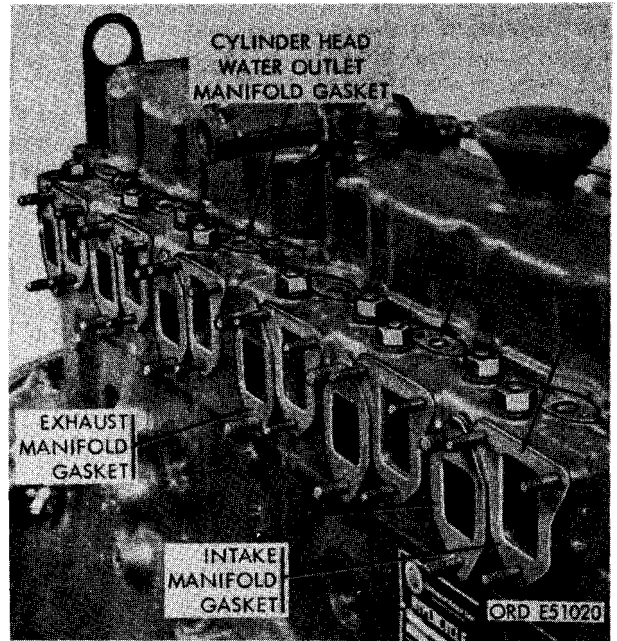

FIGURE 172. REMOVING OR INSTALLING INTAKE, EXHAUST, AND CYLINDER HEAD WATER OUTLET MANIFOLD GASKETS.
- (7) Figure 172. (A) Remove and discard six cylinder head water outlet manifold gaskets. (B) Remove and discard six intake manifold gaskets. (C) Remove and discard six exhaust manifold gaskets.